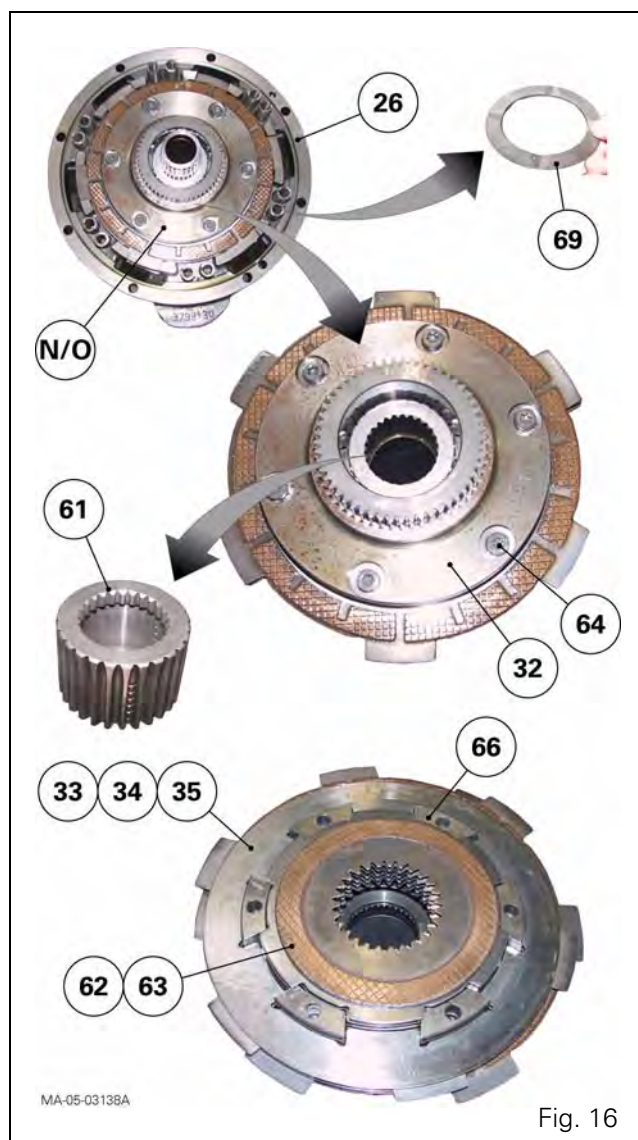

Fig. 16
25. Take out the clutch O/brake N assembly from the cover (26). Retain the friction washer (69) (Fig. 16).
26. Remove the clutch hub (61). Take out the screws (64) to remove the clutch cover (32) (Fig. 16).
27. Mark the order of the discs and brake/clutch thrust plates before removing them (Fig. 16).
28. Mark the direction and remove the Belleville washers (67) and (68).